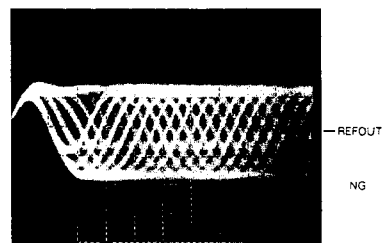

Fig. 27
2. Observe RFO in respect to REFOUT in the oscilloscope, and adjust VR355(FEB) to obtain maximum RF and optimum eye pattern. (See Fig.27,28)